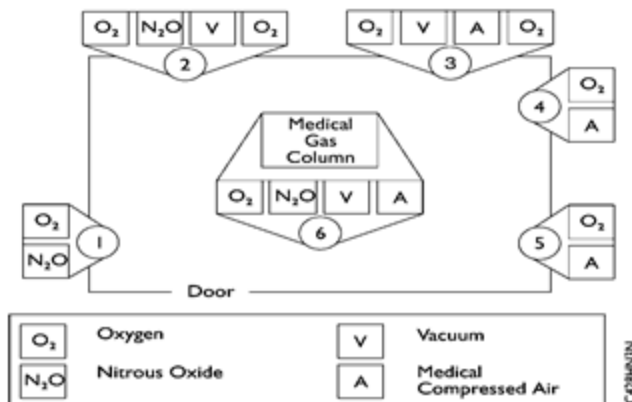

Figure 1. Sample room with 6 stations, numbered clockwise from left, and 18 outlets
- Part B is for medical gas outlet and vacuum inlet inspections, which uses the outlet numbering scheme shown in Figure 1.